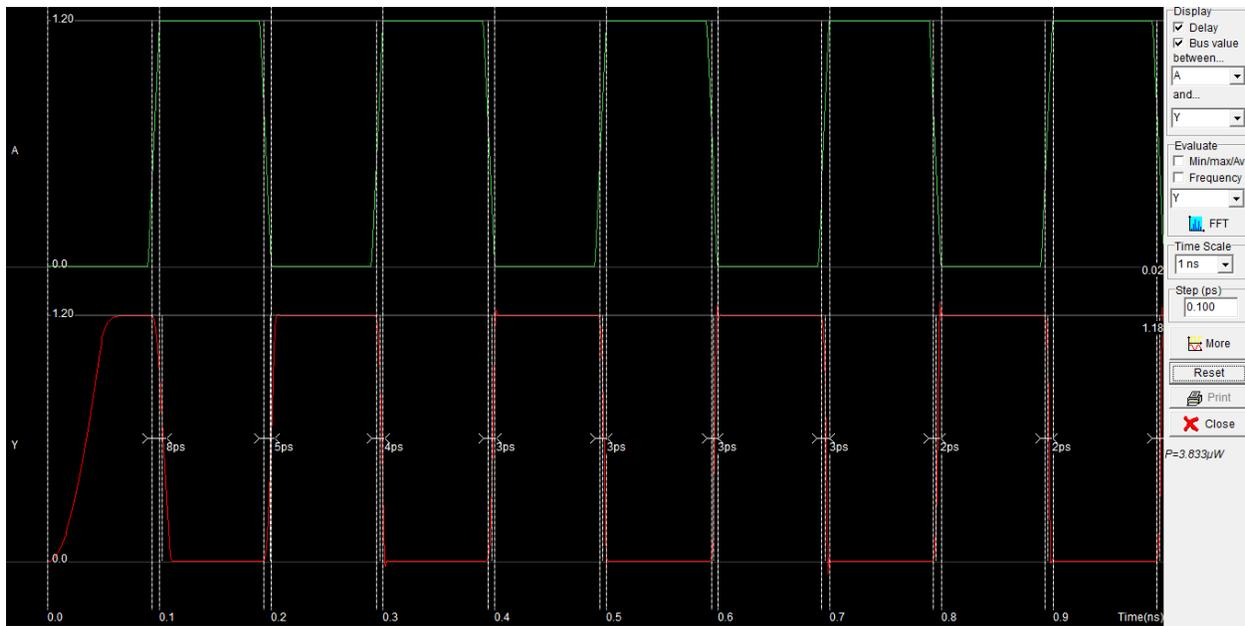

Figure 19
Now we need to see the waveform. Click the “Run Simulation” button. A waveform will appear, as shown in Fig. 19. It is clear from the plot that, the output (Y) is inverted from the input (A).